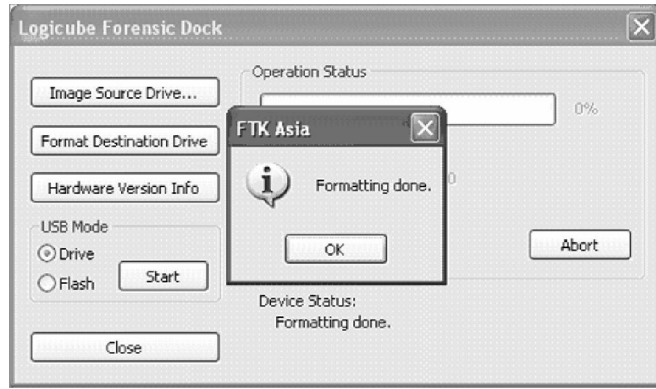

Figure 13 – Destination Drive Format Completed.
5. When the format is done, a message box will prompt the user. See Figure 13 below: